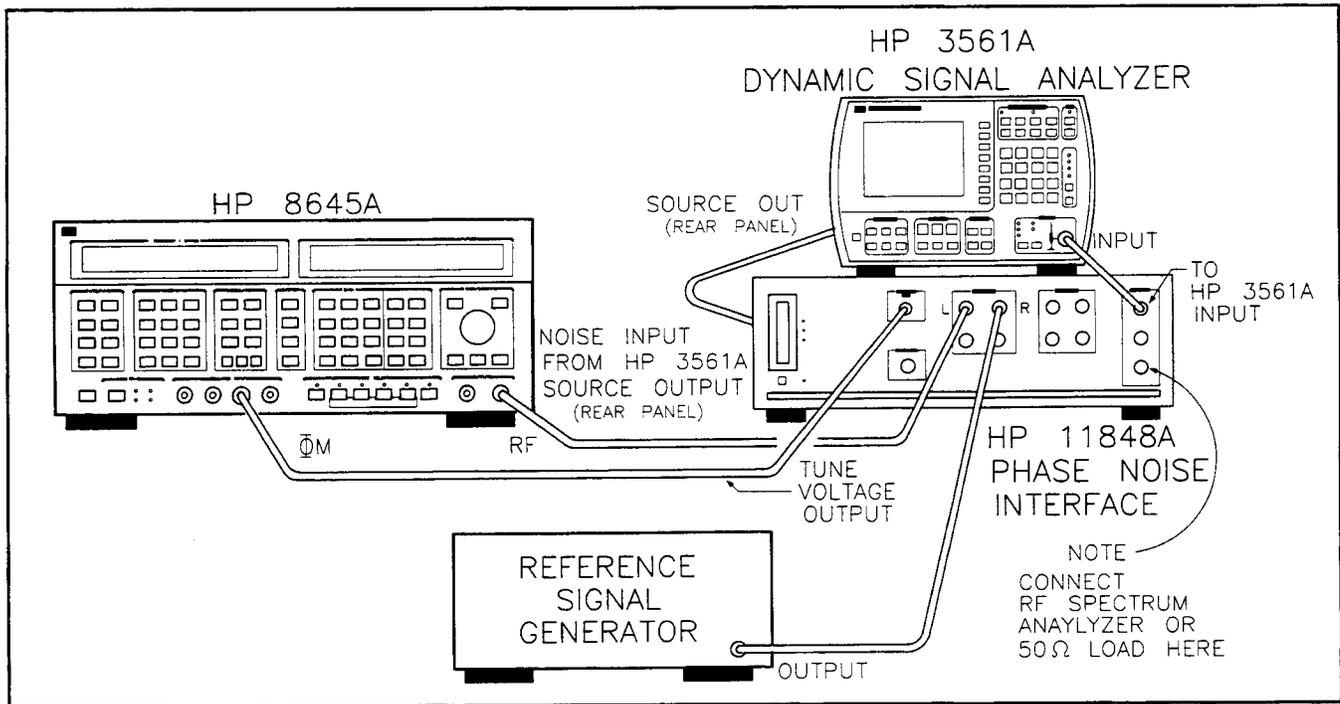

Figure 3-4. SSB Phase Noise Test Setup
1. Connect the equipment as shown in figure 3-4. (Note the connection to the Φ M input of the HP 8645A.)